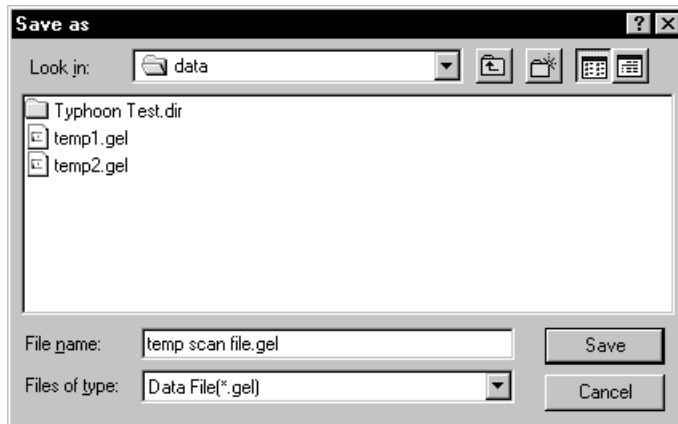

Figure 9-6. The Save as window.
2. In the Scanner Control window, click the **Scan** button. The Save as window appears (figure 9-6).